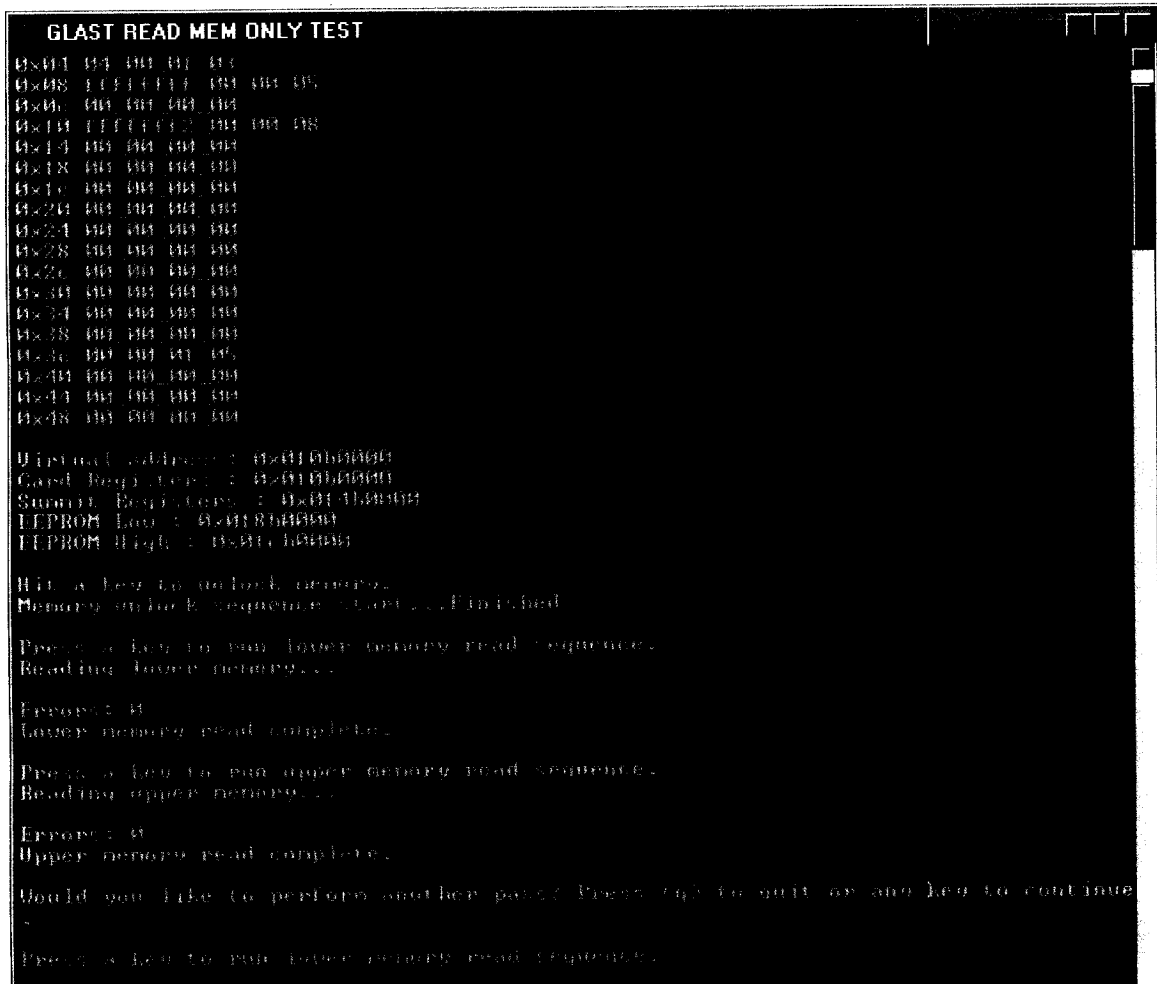

FIGURE 7, GLAST READ MEM ONLY TEST screen capture
- 136. Run GLAST READ MEM ONLY TEST, reference Figure 7